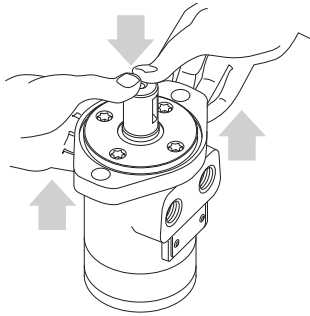

Figure 5-22, Motor Flange Removal
6. Press down on the end of the shaft while lifting the flange (Figure 5-22). Do not disturb the shaft.